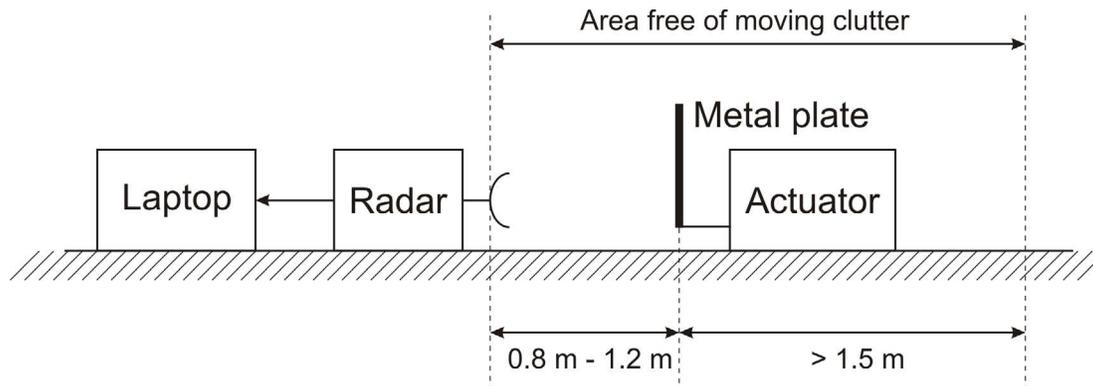

Figure 1. Setup of the testing and judging environment
1. Fig. 1 shows the testing and judging environment. The radar sensor needs to detect and measure the mechanical motion of a metal plate (size 12 cm x 8 cm) that it is periodically moving. Only the fundamental component of the periodic motion is to be detected and measured. During the calibration stage, the team can locate the radar in a range between 0.8 m to 1.2 m to the metal plate. No moving clutter will be allowed 1.5 m behind the vibrating moving plate in the line-of-sight direction. Depending on the alternatives provided by the convention center, the space between the radar and the metal plate can be a flat surface (one-table solution), or open air (two-table solution). If the one-table solution is possible, that will be the deployment used for all the experiments.